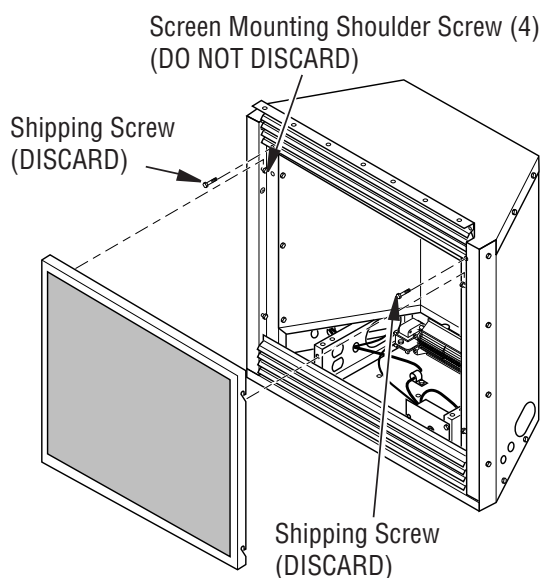

Figure 5 - Removing Screws and Screen
1. Using a 5/16" nut driver, remove two shipping screws and screen (*see Figure 5, Page 9*). Discard these screws. Remove 5/16" screen mounting shoulder screws (do not discard).